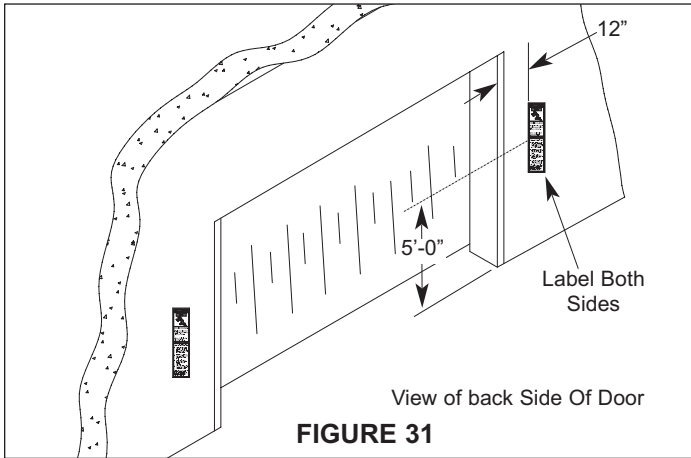

FIGURE 31
2. Peel off backing on label and apply in position, **Figure 31**.